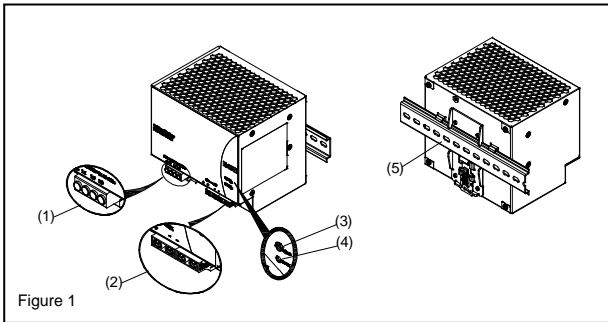
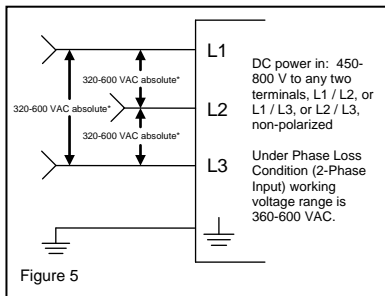

Figure 1
Figure 5
2. Device description (Fig. 1)
5.1. Input connection (Fig. 1, Fig. 5)
Use L1, L2, L3 and PE connections of input terminal connector to establish the 3 x 400-500 VAC connection. Fig. 5 shows the connection to the various network types.
5.2. Output connection (Fig. 1 (2))
Use the "+" and "-" screw connections to establish the 24Vdc connection. The output provides 24 VDC. The output voltage can be adjusted from 24 to 28 VDC on the potentiometer. The green LED DC OK displays correct function of the output (Fig. 1 (4)). The device has a short circuit and overload protection and an overvoltage protection limited to 35 VDC.